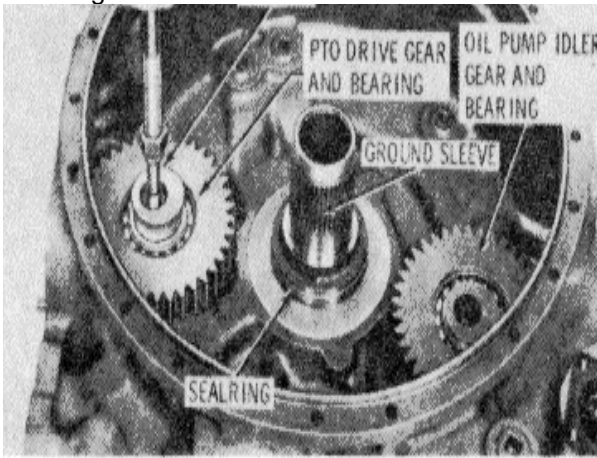

Figure 15-54. Removing PTO Drive Gear Spindle SEPARATING CONVERTER HOUSING AND RETARDER HOUSING AND REMOVING RELATED PARTS. Separate housings as follows:
3. If present, remove the bolt and lockwasher from the power takeoff idler gear spindle (Figure 15-54). Using a slide hammer, remove the spindle from the converter housing. Remove the gear and bearing. Remove the snap ring from the gear. Remove the oil pump idler gear and bearing in the same manner.